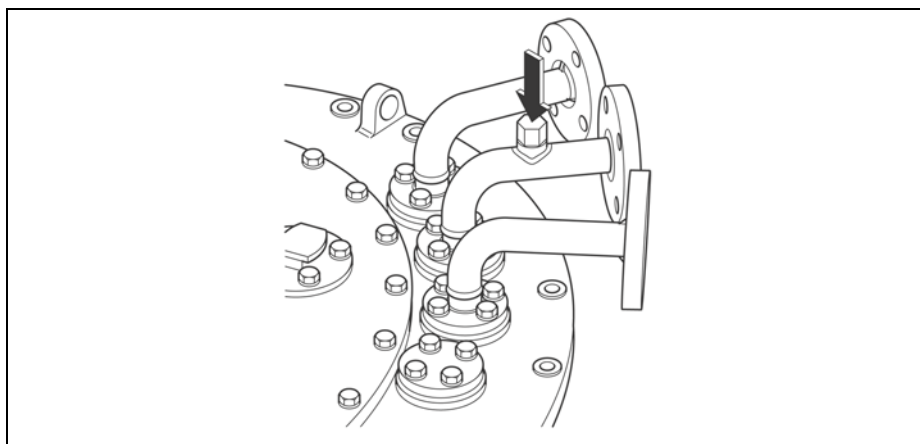

Figure 39 Connecting elbow vent screw
- Push suction pipe (S) through bleeder screw on connecting elbow: screw cap M16/wrench 22, max. tightening torque 9 Nm, bleeder screw M6 with slotted head, max. tightening torque 2 Nm, **Figure 39**.